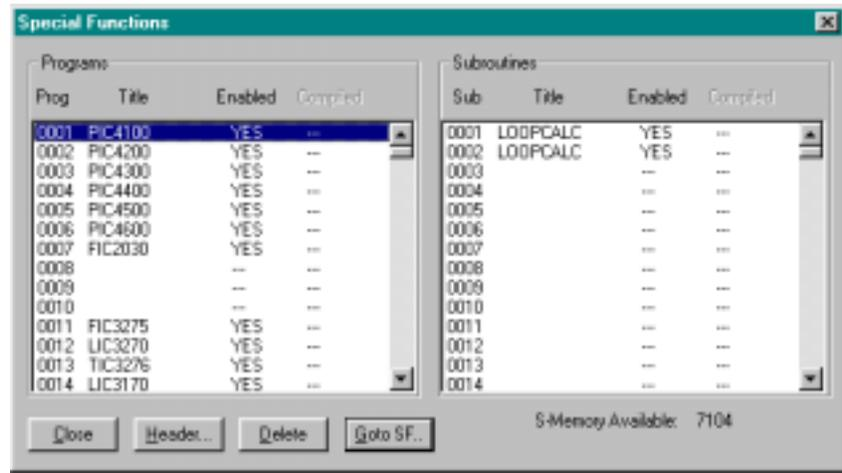

Figure 6.1a
1. Click Special Function Program Editor from the View menu (Alt+V, F). The Special Function Program dialog box appears (see Figure 6.1a).